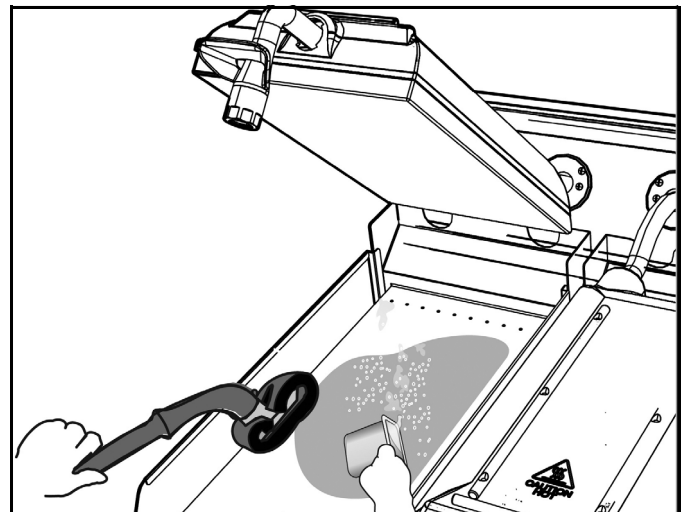

Figure 6-6
5. Apply Hi-Temp Cleaner directly to the grill surface. Spread with the blue-handled angle tool. See Figure 6-6